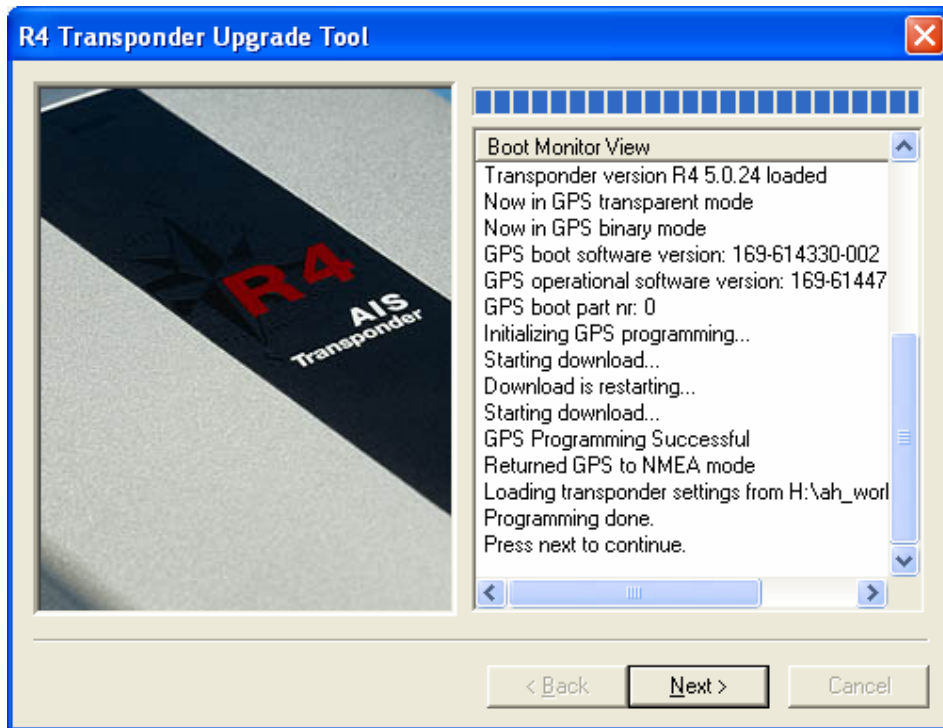

Figure 5: Download Progress Screen
7. The download progress screen will provide status information about this upgrade process (Figure 5). A right click on the status printout window will copy all contents to the clipboard, if desired. In case something goes wrong a popup will appear telling the user to restart the program and perform another upgrade attempt.